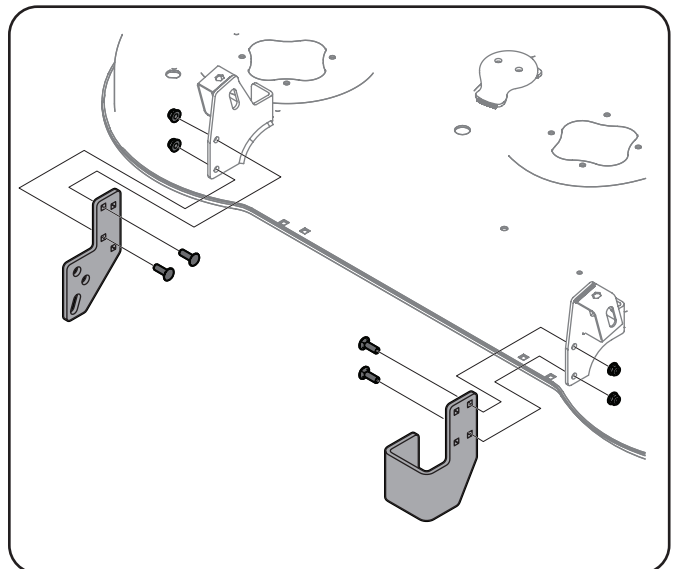

Figure 1-10
2. Install the Left and Right Roller Brackets (#6 & #7) to the location shown in Figure 1-10 on the Tractors deck with two Carriage Bolts (#1) and two 5/16 Lock Nuts (#3) per side. See Figure 1-10.